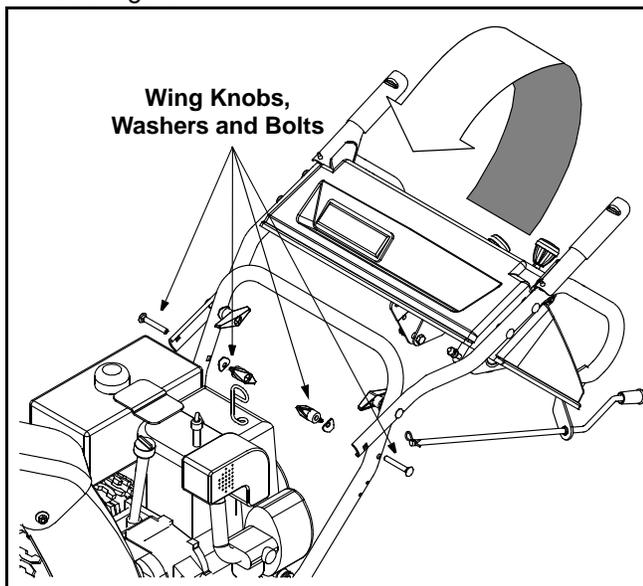
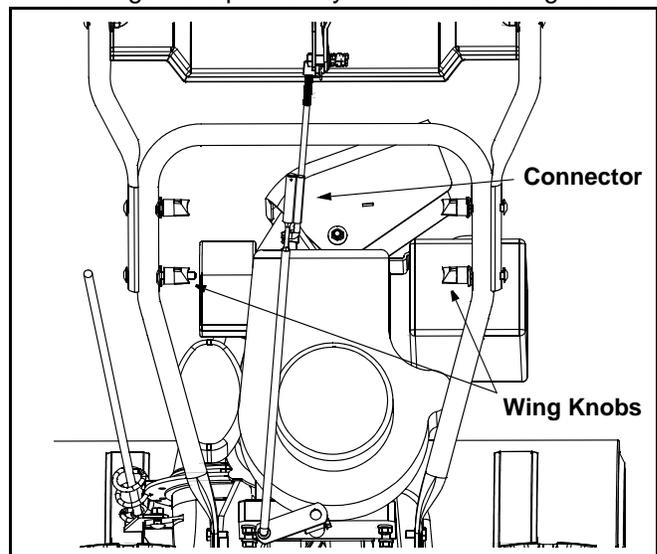

Figure 2
Figure 3
- Remove the **lower** two plastic wing knobs, cupped washers and carriage bolts from the lower handle. See Figure 2.
- Raise the upper handle assembly until it locks over the lower handle. See Figure 2 and Figure 3.
- Secure the upper handle and lower handle with the two plastic wing knobs, cupped washers and carriage bolts previously removed. See Figure 3.
- Slide the shift rod connector down over the end of the lower shift rod. See Figure 3. Tap the connector until it **locks** on the lower shift rod.